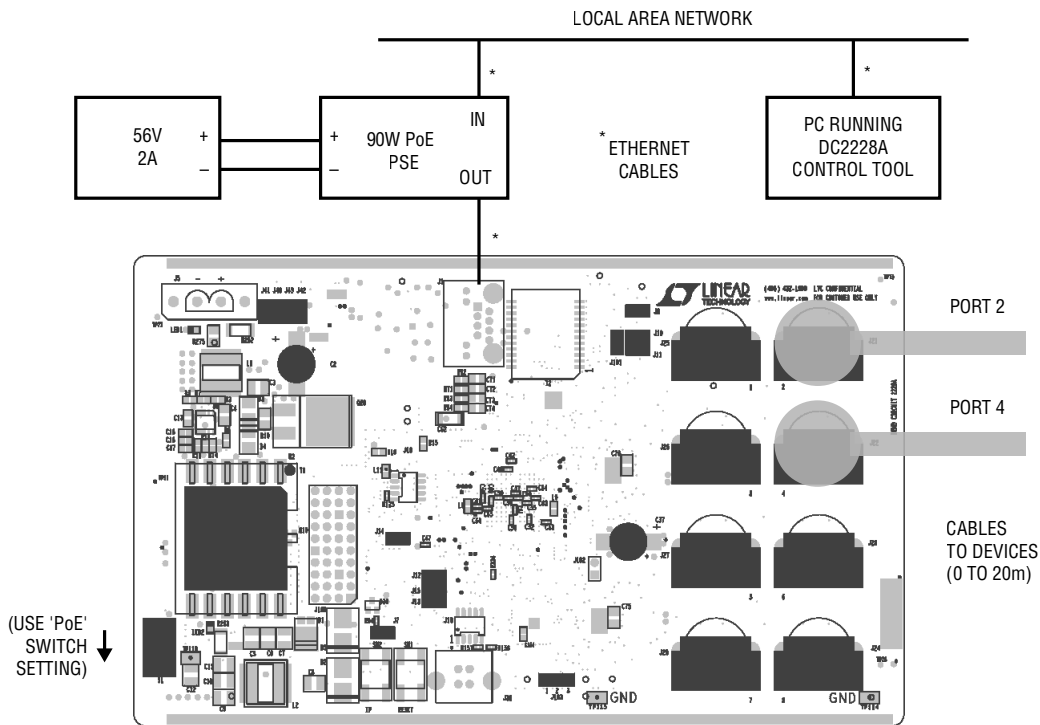

Figure 4. Set-Up Using PoE and DHCP
1. Connect Ethernet cables per Figure 1 (if using a power supply) or Figure 4 (if using PoE).